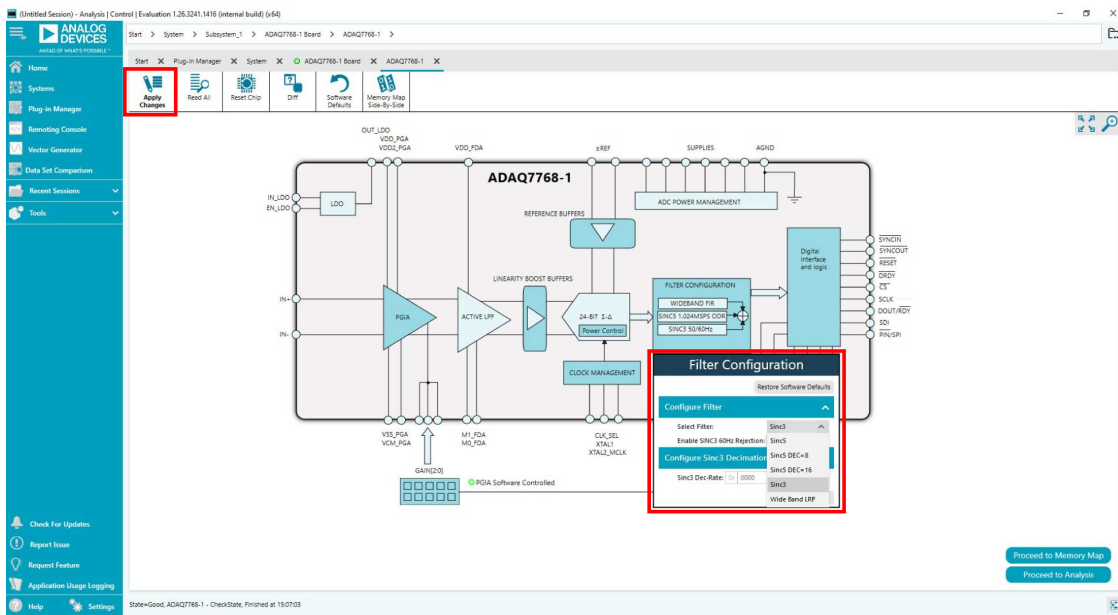

Figure 23. Set the Digital Filter Type
2. In the **Chip View** of the ACE software, click **Filter Configuration**. Use the dropdown to select **Sinc3** (programmable decimation rate), as shown in Figure 23.